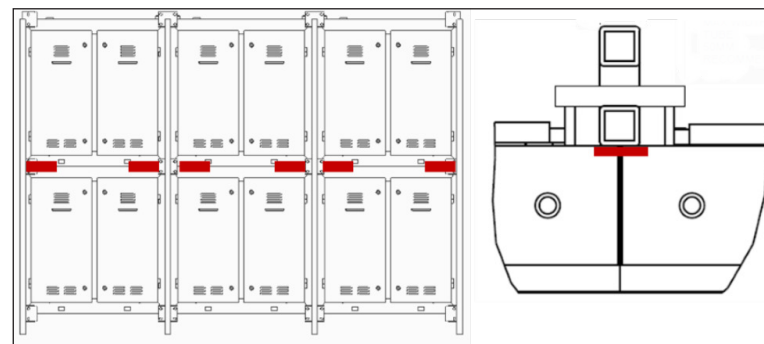
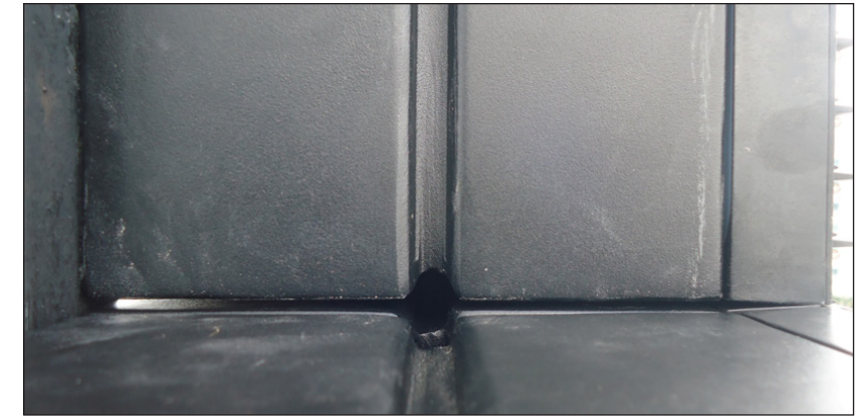

Figure 8: Shim Locations for Seam Adjustment
Figure 9: Section with Shim
6. Shim as needed to ensure that the display sections are flushed and aligned. Seams between sections may not be greater than 0.6 mm. Refer to **Figure 8** and **Figure 9**.